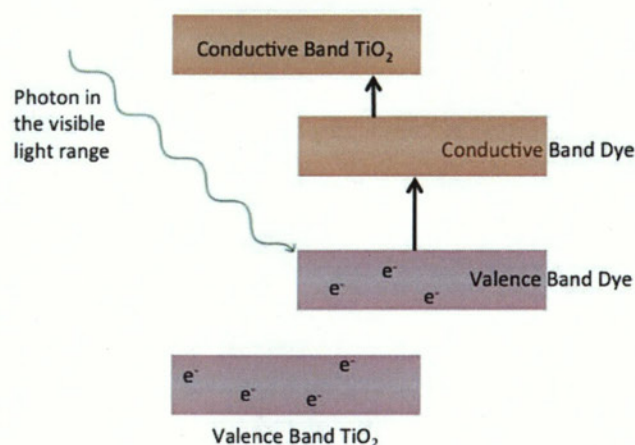

Figure 6: Electrons excited by photons move from the dye's valence band to the dye's conductive band, and finally to TiO2's conductive band.
The solar cell is built with a combination of two semiconductors. One, an organic material (in this case blackberry juice) and an inorganic material like titanium (IV) oxide. See Figure 6. Upon absorption of the photon from the sun, the electron in the organic dye's valence